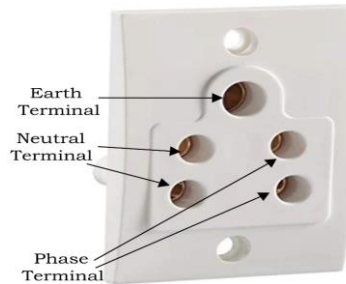

Fig. 1.54 Various terminals in the socket
Step 5. Observe the phase, neutral and ground terminal of the socket, which is at the top of the socket. Figure 1.54 illustrates the various terminals of the socket.